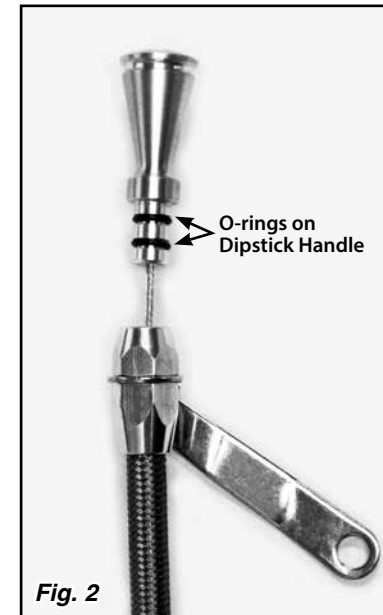
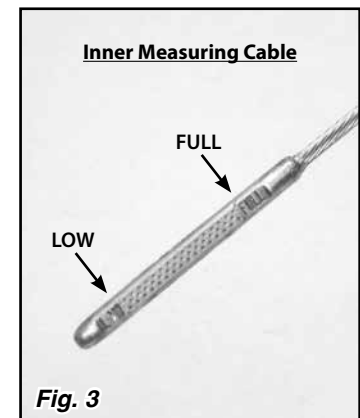

Fig. 2
Fig. 3
Step 4: Lightly lubricate the O-rings on the dipstick handle with engine oil. **Fig. 2** Insert the handle and inner measuring cable fully into the dipstick tube assembly. Fill the engine with the appropriate amount of oil for your particular application. Verify that the oil level is at the FULL mark on the inner measuring cable. **Fig. 3** If it is not, call Lokar Technical Support for assistance. If the oil level reads correctly, then return the handle and inner measuring cable into the dipstick tube assembly.